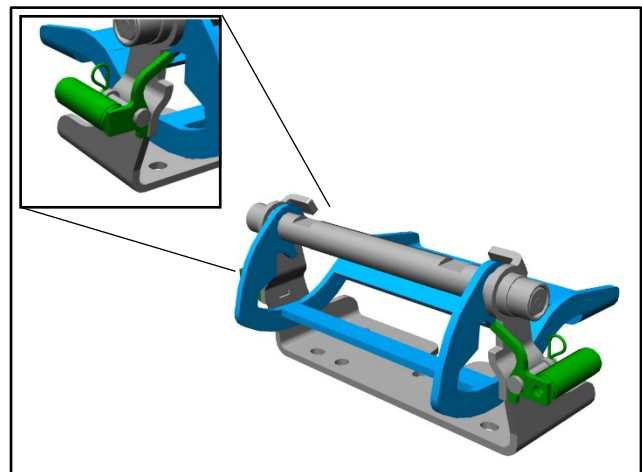

Figure 24
16. Operate the left side and right side hinge lock mechanisms. Make sure that the lock mechanisms self-return when actuated (refer to Figure 24).